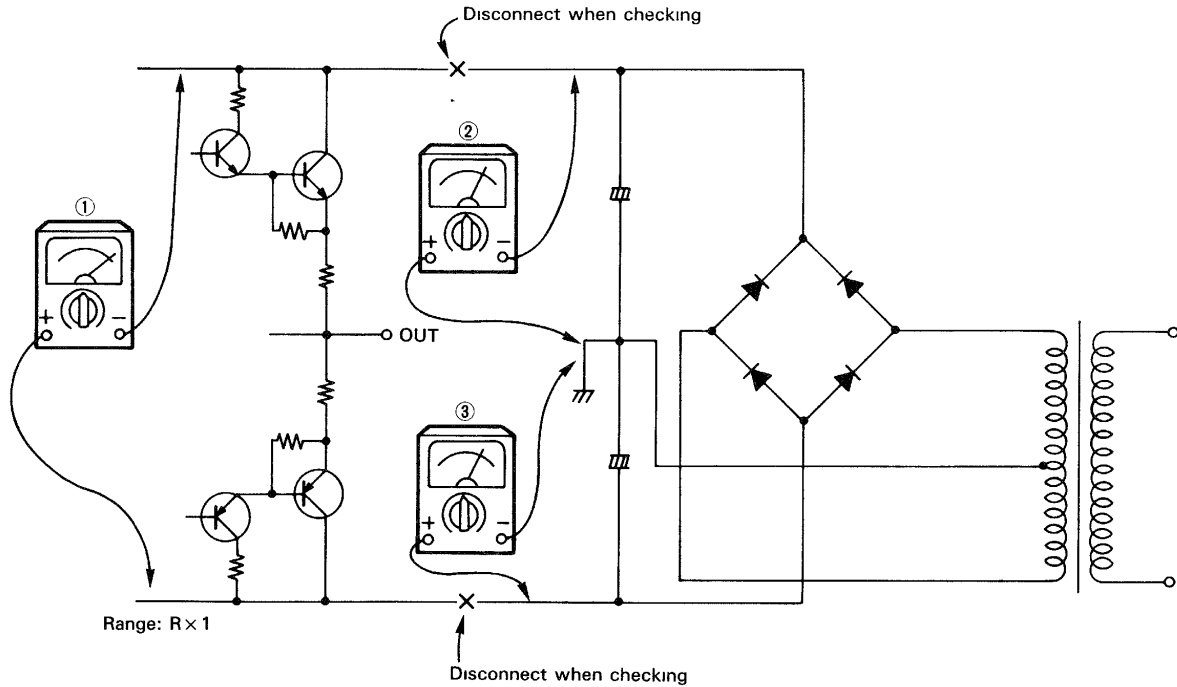

Fig. 79 Finding faulty block — Primary fuse blows out.
To find out which block is faulty, check the continuity between the collectors of the output transistors (+ B and - B) as shown in Fig. 79 ①.